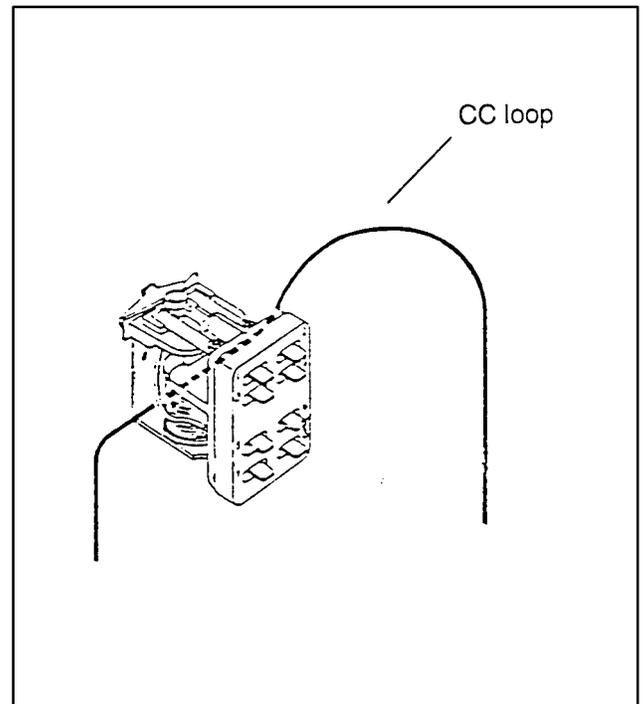

Figure 1. CC Relay with Lead
3. If the relay is used as a CC relay, there will be a large 8-10 ga. lead running *through* the frame of the relay near the coil. See Figure 1. This lead is connected between the C relay and 2TS (thermal switch).